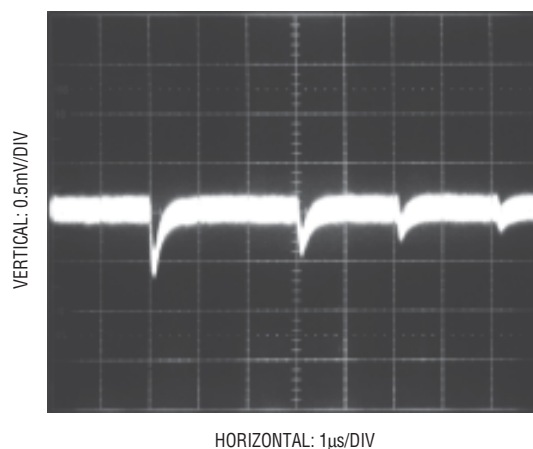

Figure 15. Adequate Reference Settling
2. Transients on the reference inputs caused by the capacitive switching currents must settle completely during each bit test (each 4 ACLK cycles). Figures 15